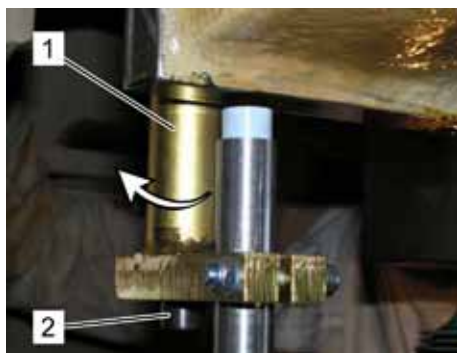

Fig. 38: Sensor under crosshead
6. If the crosshead is not fully covering the sensor tip loosen the bracket fixing bolt (Fig. 38/2) and then turn the bracket (Fig. 38/1), until the crosshead is fully covering the sensor tip (Fig. 38/arrow).
7. Then tighten the bracket fixing bolt (Fig. 38/2).